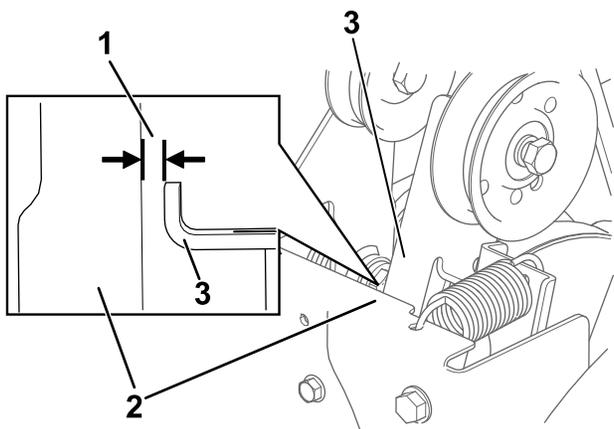

Figure 29
3. With the auger/impeller lever disengaged, ensure that the gap between the auger clutch arm and the frame of the machine is 1.5 mm (1/16 inch) as shown in Figure 29.